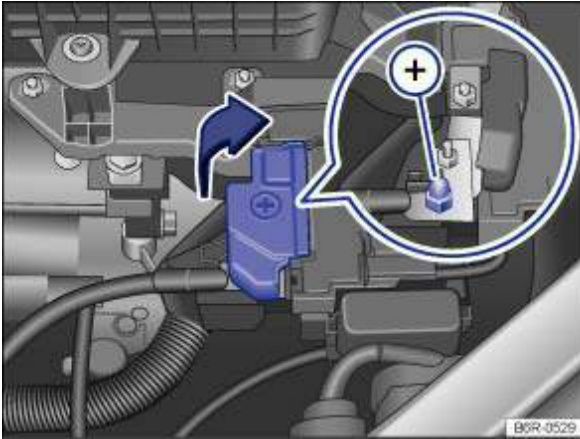
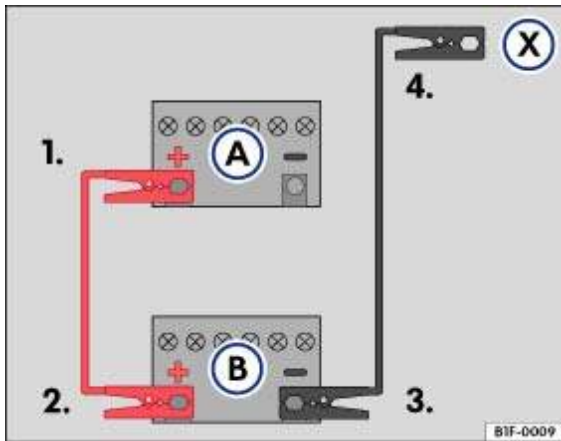
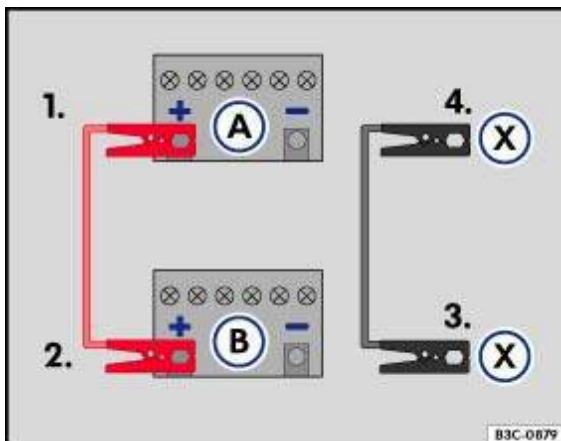

Fig. 223 In the engine compartment: jump lead connection point, positive ⊕
Fig. 224 How to connect the jump leads when starting vehicles without start/stop system: discharged battery ⊕ and battery providing assistance ⊕
Fig. 225 How to connect the jump leads when starting vehicles with start/stop system: discharged battery ⊕ and battery providing assistance ⊕
The positive jump lead connection point → Fig. 223 ⊕ is in the engine compartment. In order to establish a suitable earth connection, screw towing eye into the front mounting provided for this purpose → *Tow-starting and towing* .
- Connect one end of the *red* jump lead to the positive terminal → *Fig. 224* ⊕ or → *Fig. 225* ⊕ , or to the jump lead connection point → *Fig. 223* of the vehicle with the discharged battery Ⓐ →  .
- In vehicles **without start/stop system**: connect one end of the *black* jump lead to the negative terminal ⊖ in the vehicle providing assistance Ⓢ → *Fig. 224*.
- In vehicles **with start/stop system**: connect one end of the *black* jump lead ⊗ to a suitable earth connection, to a solid metal part that is securely bolted onto the cylinder or to the cylinder block itself → *Fig. 225*.